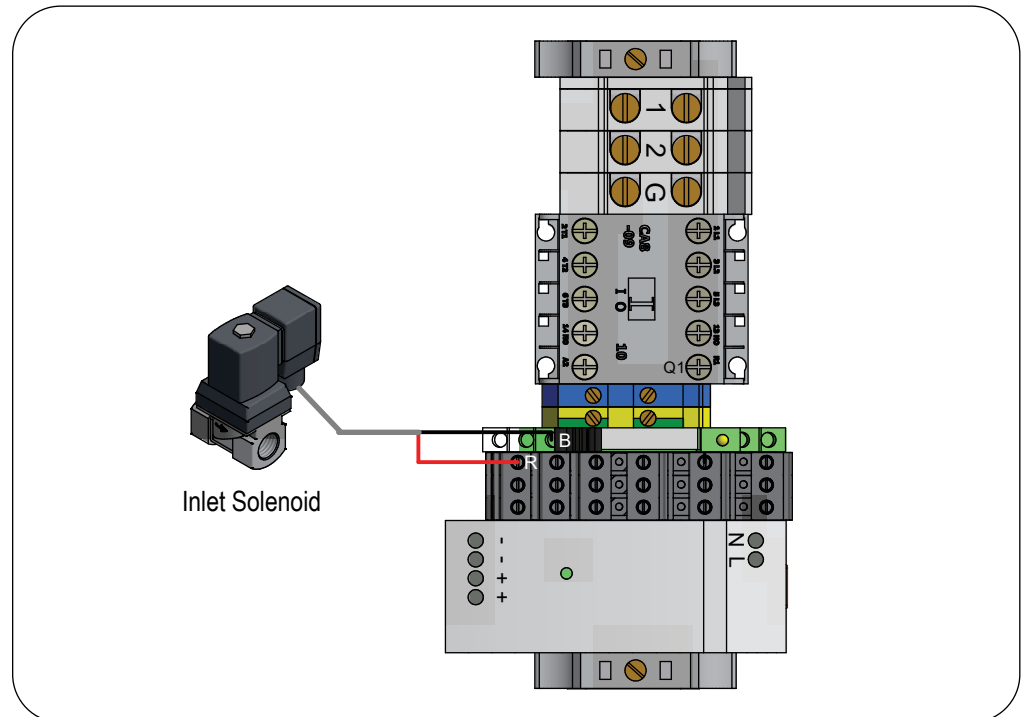

Figure 16: Wiring the Solenoid (modular mount only)
2. Replace cable from inlet solenoid to electrical enclosure contactors with a cable of suitable length and equivalent gauge. Refer to *Figure 16*.